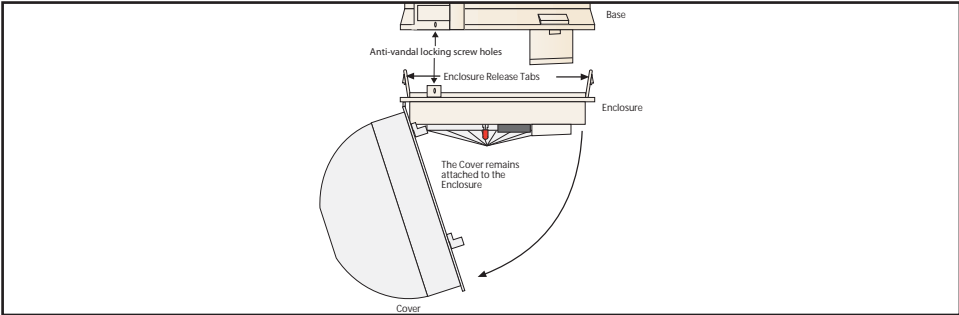

Figure 2.1: Opening cover
1. Remove the base from the enclosure by pressing the two enclosure release tabs inward while lifting the enclosure away from the base. Refer to Figure 2.1.
2. Open the cover by turning counterclockwise. One side of the cover will remain attached to the base of the detector. Do not attempt to entirely remove the cover. Refer to Figure 2.1.